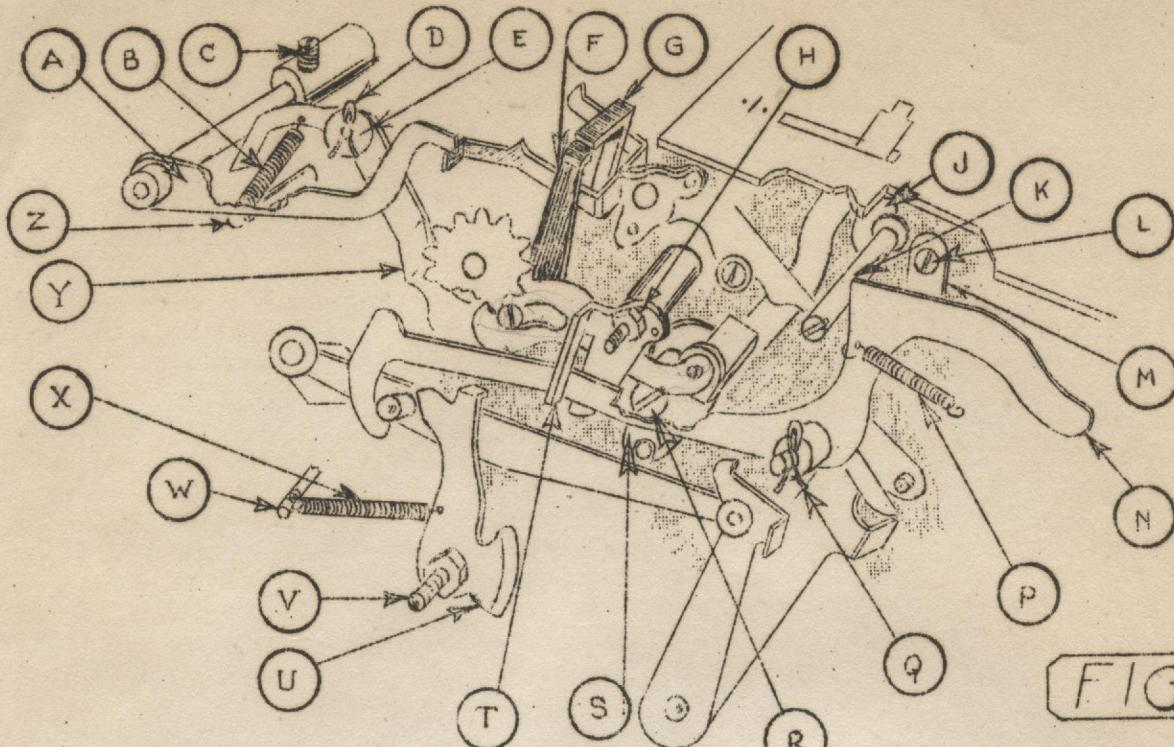

FIG. 2
- 24- Adjust (Y) so that the lug which engages stud (G) is aligned with the surface of the carriage support arm. See Figure 1. Also see (F) and (G), Figure 2.
- \*26- Install trip arm assembly (A), shown in Figure 2, and adjust as explained on Plate 8, Machine Service Bulletin 161.